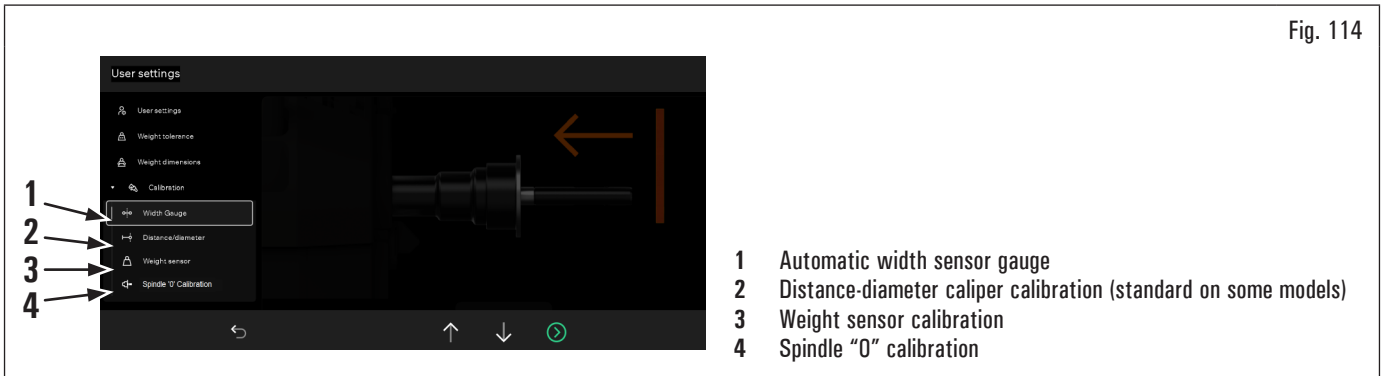

Fig. 114
Press the icon (Fig. 114 ref. 1) to display the following screen page on the monitor:
Press the icon (Fig. 114 ref. 2) to display the following screen page on the monitor:
1. press the icon (Fig. 114 ref. 4) to display the following screen page on the monitor:
1. Press the icon (Fig. 114 ref. 3) to display the following screen page on the monitor: